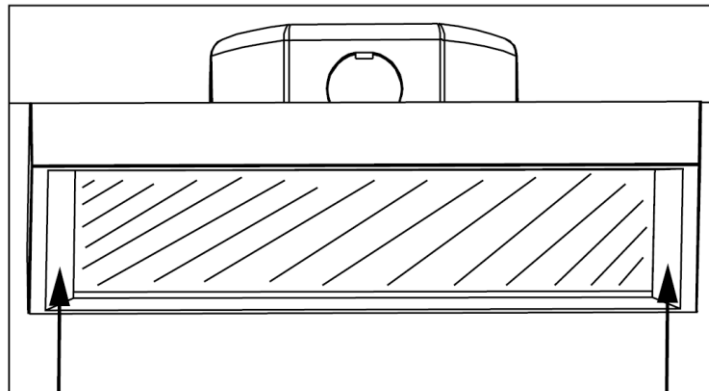

Figure 8
11. Secure the Fixture Assembly to the Mounting Bracket **by pushing up on one side of the Fixture and then to the other side**, shown in *Figure 8*.